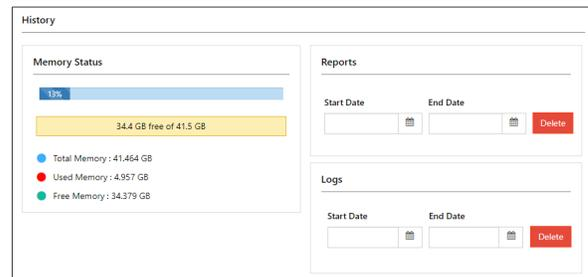

Figure 146: System Storage screen
2. The History screen (Figure 146) displays how much memory storage is available on the Prover and how much of that storage is currently being used.